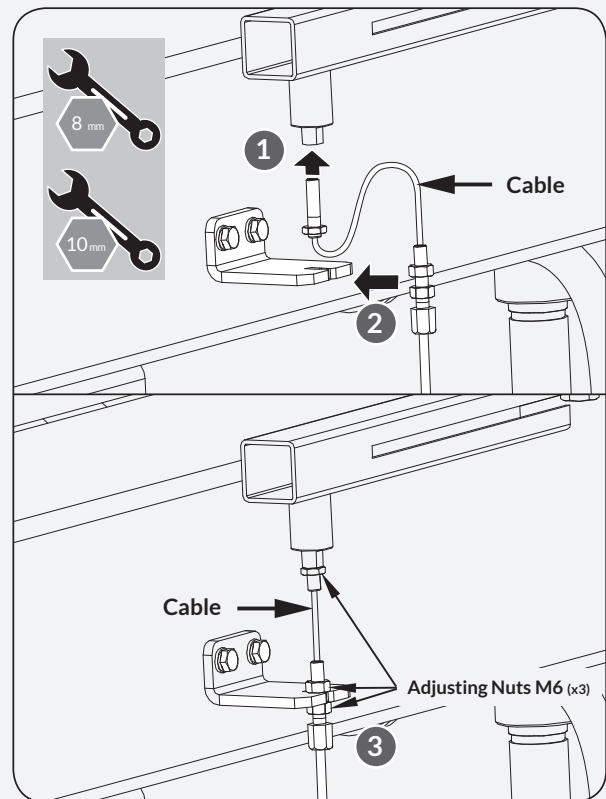

Figure 14b
2. Screw the straight end of the cable into the spring pin hole. (See **Figure 14b**, illustration 1). Pass the cable between the lower two adjusting nuts through the middle hole of the cable fixing plate. (See **Figure 14b**, illustration 2). By adjusting the three adjusting nuts, make sure the cable between the upper spring pin and the lower cable fixing plate is just straightened. (See **Figure 14b**, illustration 3)